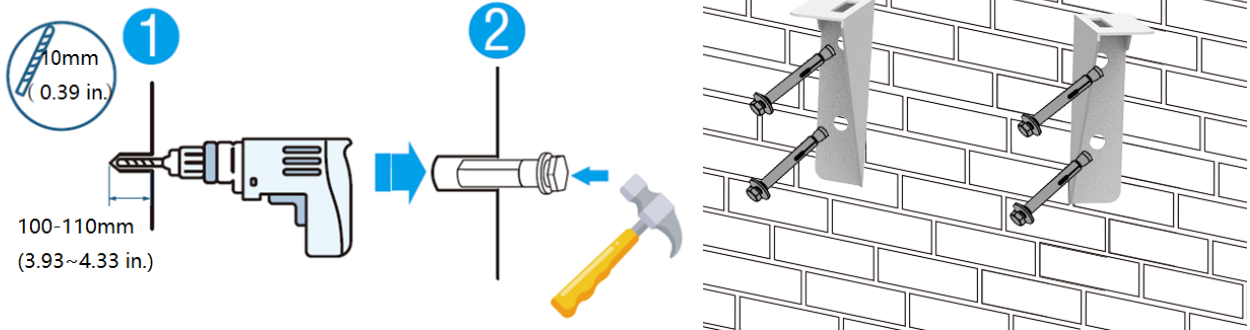

Figure 4-3
- b) Choose the recommend drill head (as shown in Figure 4-3) to drill 4 holes on the wall,100mm-110mm deep.
- c) Use a hammer to secure the support to the wall, and install the expansion bolt in the hole, as shown in Figure 4-3.